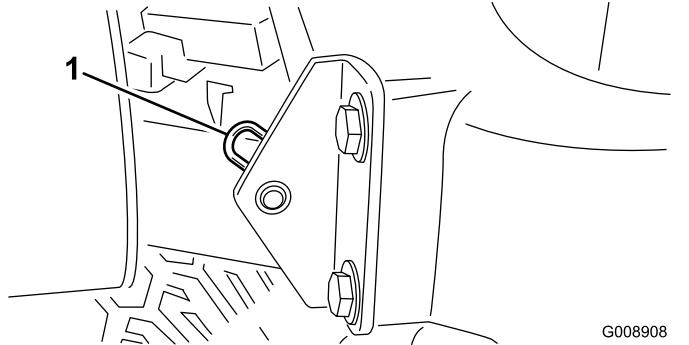

Figure 46
2. Remove the hairpin cotter securing the hood pivot to the mounting brackets (Figure 46).